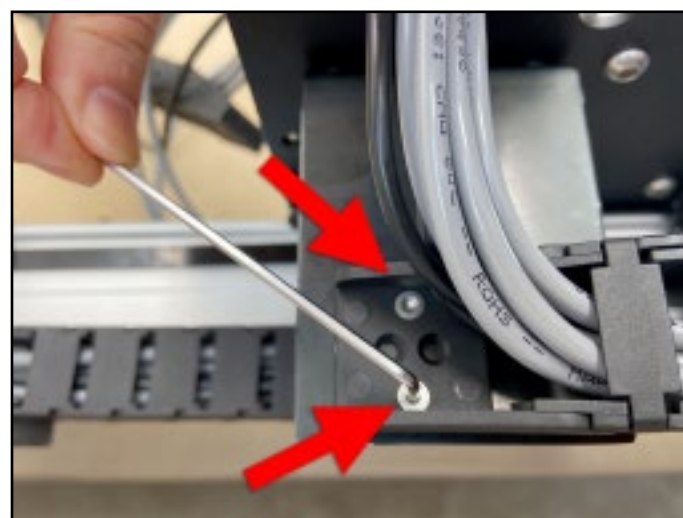

Figure 6-13
5. Use the 2mm hex key and two (2) M3x4mm flat head screws to secure the Y-Axis drag chain to the head bracket as shown in **Figure 6-13**.